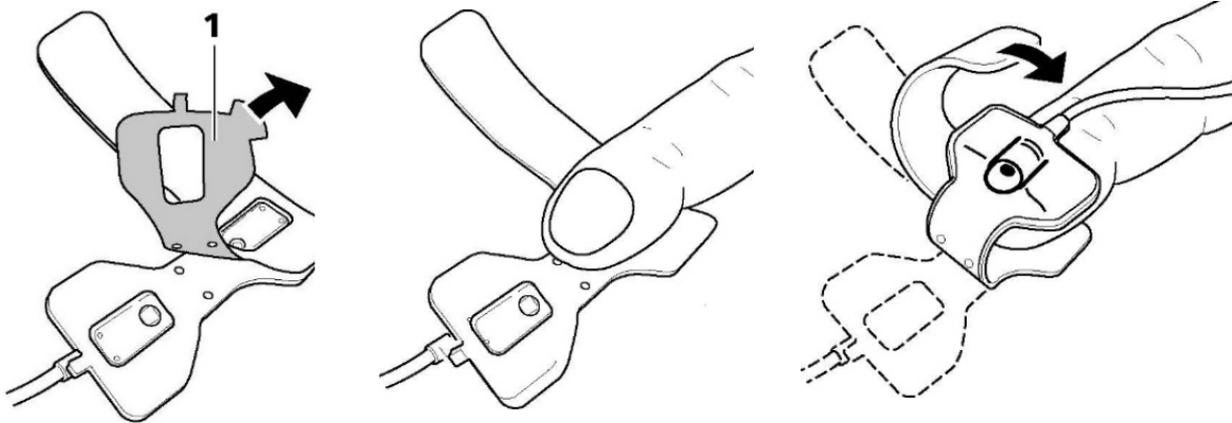

Figure 21: Attaching the oximeter probe to the finger
- 3 Remove the paper backing from the oximeter probe (see 1 in Figure 21). Attach the probe to the index finger of the patient's non-dominant hand, as shown below.